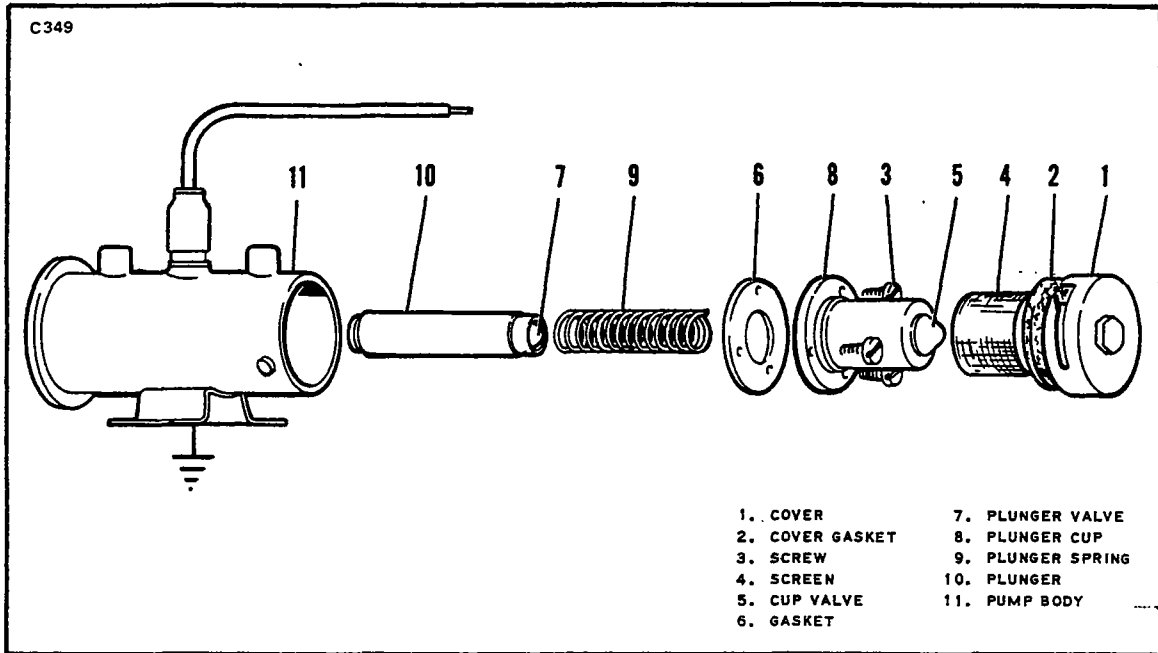

Figure 9-11. Plunger Fuel Pump (Early)
a. **Early Type Pump:** (Refer to Figure 9-11.)
- a. Later Type Pump: (Refer to Figure 9-11.)
1. Insert the plunger assembly (10) in the tube with the buffer spring end first. Check fit by slowly raising and lowering the plunger to stick. If a click cannot be heard, the interrupter assembly is not functioning properly in which case the pump should be replaced.